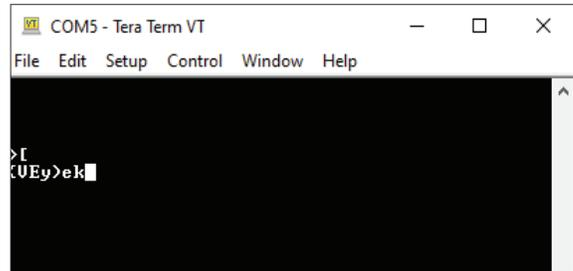

Figure 28 View sensor information
- Type in the COM window ([Figure 28) to enter the direct communications mode on the PROCHECK when connected to the ATMOS 41.
When the sensor address is 0, the returned DDI string will look like a random string of characters (e.g., {UEy)ek) after entering the direct communications mode (Figure 28).